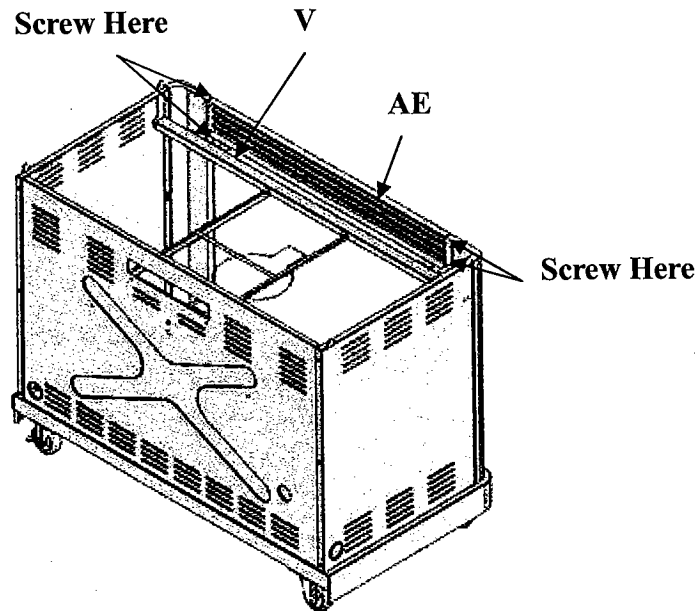

Fig. 12
Align the holes in the Cover (AE) with the Skirt (W and X) and the Beam (V), insert 1/4-20 x 5/8-in screws into the holes, and then tighten. (See Fig. 12)